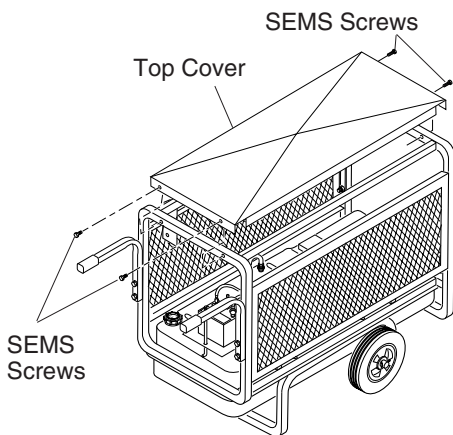

Figure 9 – Attaching Top Cover to Roll Cage
2. Place top cover on top of generator roll cage with notch on control panel side. Use four #8 sems screws provided to attach cover to roll cage (See Figure 9).